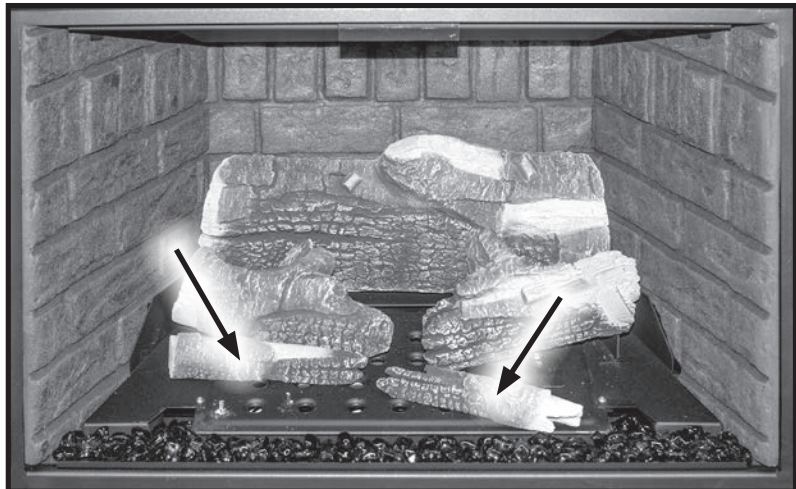

Figure 47. Front Ember Logs.
4. Next, Install the front two flat bottommed logs on the burner, as shown in Figure 47. Both logs have two drilled holes on the bottom that sit on the matching burner pins.